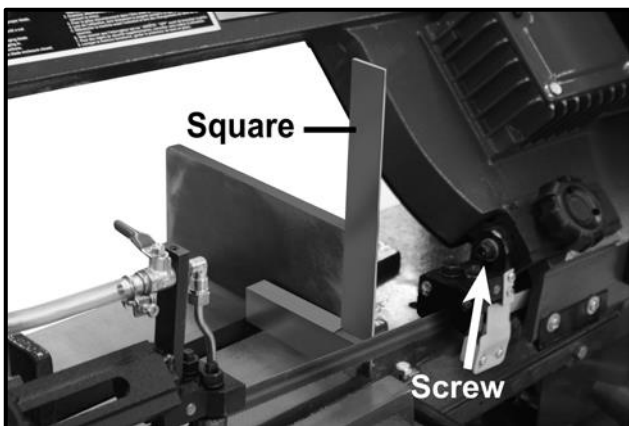

Figure-16 Squaring the blade to the table
2. Take a machinist's square and place it on the table as shown in figure-16.
4. If adjustment is necessary, loosen screw shown in figure-16 and rotate the blade guide slightly until the blade is square along its entire width with the table.